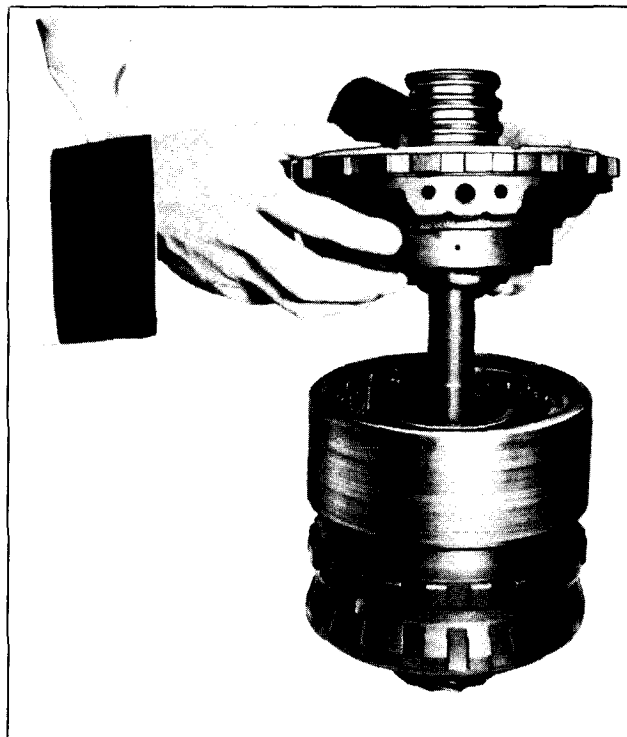

Figure 68—Center Support Installation
9. Install center support assembly into roller clutch in reaction carrier, Figure 68.